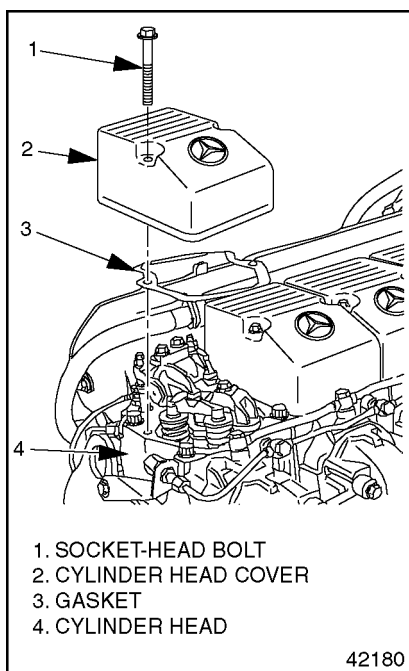

Figure 20 Cylinder Head Cover
1. Remove the cylinder head covers. See Figure 20.